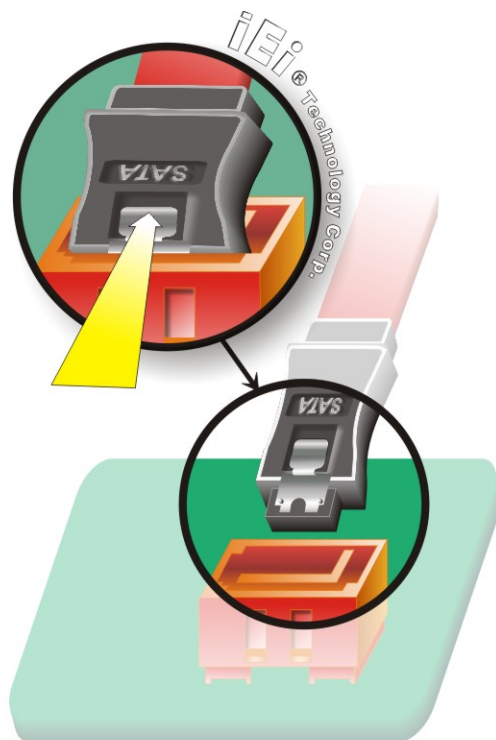

Figure 5-16: SATA Drive Cable Connection
Step 2: Insert the cable connector. Press the clip on the connector at the end of the SATA cable and insert the cable connector into the onboard SATA drive connector. See **Figure 5-16**.